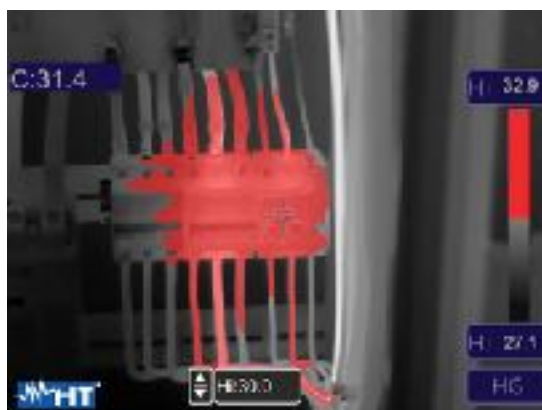

Fig. 37: Selection of isotherm line Alarm high Temp
5. Touch the “Hi” field at the bottom of the display and use the arrow keys ▲ or ▼ to set the value of the **maximum** temperature threshold above which the instrument shows image spots in red color, and the remaining spots in grey color (see Fig. 37).